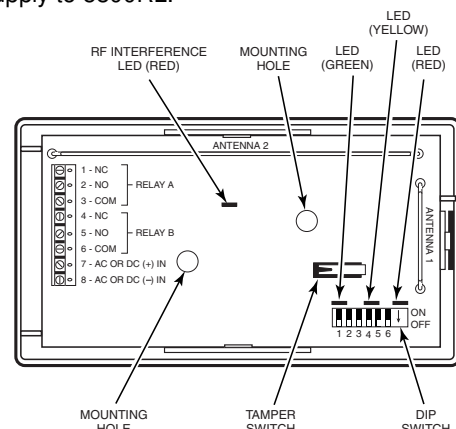

Figure 2. 5800RL Diagram
Use the following guidelines when selecting a mounting location for the 5800RL Relay Module (see Figure 2):
2. Using the 5800RL base as a template, position in the desired location and mark the two mounting holes. See Figure 2 for mounting hole locations.
The 5800RL contains two relays (Figure 2) (SPDT, rated 2A, 28VAC/VDC) that may be used to activate remote sounders and/or remote arm/disarm indicators. There are three LEDs (green, yellow, red) located above the DIP switch and one LED (red) located approximately in the center of the pc board. The LEDs located above the DIP switch, indicate power and relay activity. Refer to Figure 2 on the previous page. The RF Interference LED monitors local radio frequency interference. If this LED is continuously lit, the 5800RL should be relocated.